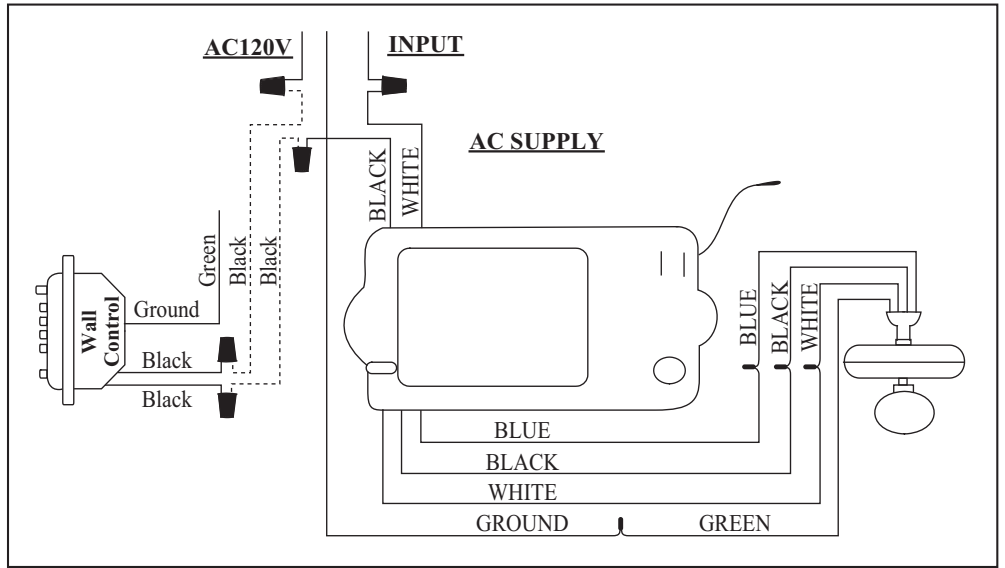

Figure 12
2. Make the electrical connections as shown in Figure 12. If your outlet box has a ground wire (green or bare copper) connect the wall transmitter's ground wire to it; otherwise connect the wall transmitter's ground wire directly to one of the screws from the outlet box.